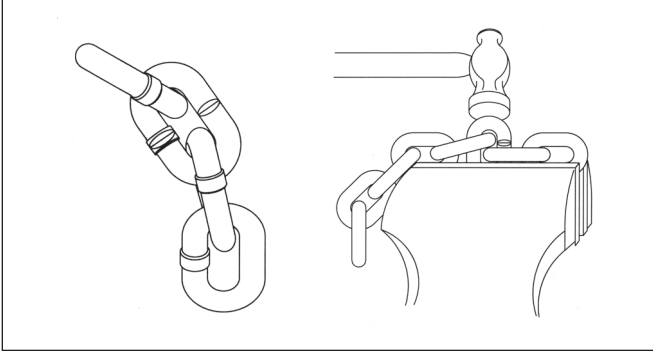

Figure 15. Cutting Chain by Nicking
1. Use a grinder and nick the link on both sides (Figure 15), then secure the link in a vise and break off with a hammer.